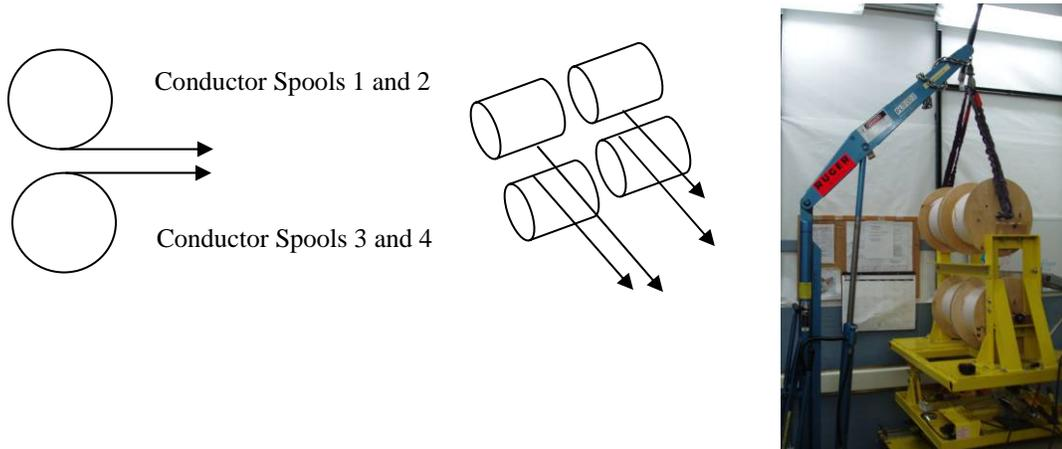

Figure 1- Orientation of Copper spools
Load (4) spools of copper conductor into the conductor payout spool fixture. Position the spools in the fixture with the upper spools (1 and 2) being fed from the bottom side and lower spools (3 & 4) being fed from the topside [See Figure 1- Orientation of Copper spool] [Note: the cable lead connectors may be brazed onto the conductors prior to installing the copper spools per section 6.13]